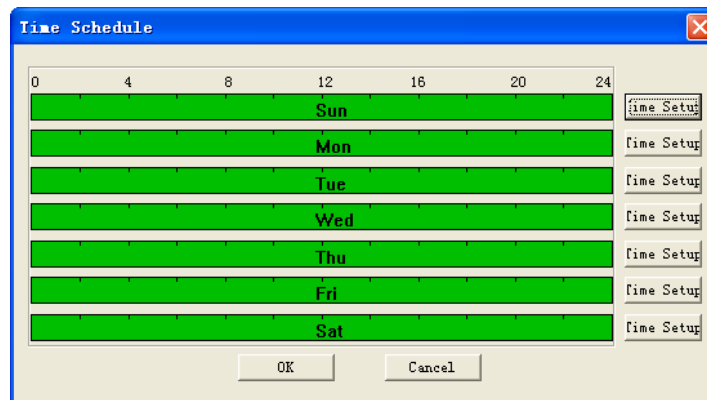

Figure 7-39
- ✧ Period: This is where you can set a secondary record period. Note: this will not take precedence over the original schedule. Click set, you will see an interface as shown in Figure 7-39. In Figure 7-39, click time set, you can see an interface is shown as in Figure 7-40. Here you can set time period.